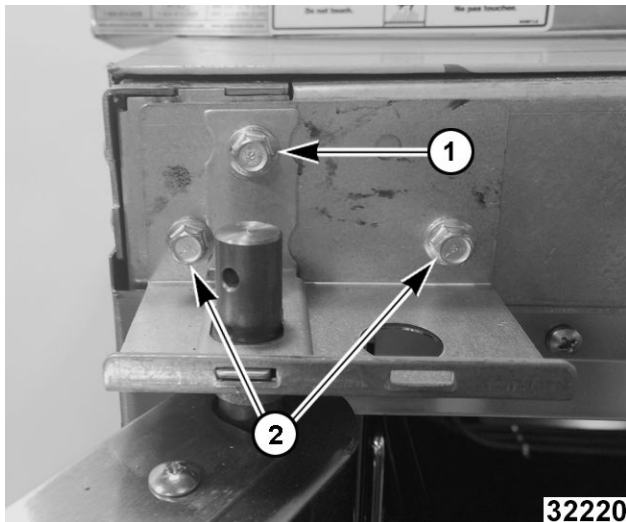

Fig. 40
- While supporting door, remove hex head bolts holding upper bearing retainer (1, Fig. 40) and upper shaft bracket (2, Fig. 40).